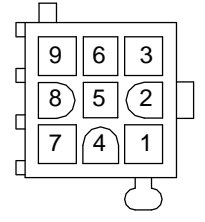

Figure 3-2
Wiring must be routed into the Converter Shelf through specific openings as shown in Figure 3-2. For factory wiring, edge guards are provided on the circular openings. If your application requires conduit, remove the edge guards, and install 1-1/4" conduit fittings.
When connecting lugs, correct assembly order is: lug, flat washer, lock washer, hex nut. Recommended torque is 84 in. lbs. Refer to Figure 3-2 for terminal identification as the following input connections are made.
- 1) A non-conductive shield covers the **2 -48V IN** and **2 INPUT RETURN** terminals. Refer to Figure 3-2 for location. Separate the two halves of the shield to expose the terminals.
- 4) Before performing steps 4 and 5, position the furnished non-conductive shield over the **2 -48V IN** and **2 INPUT RETURN** terminals as shown in Figure 3-2.
Two 1/4-20 threaded studs are provided to attach the grounding conductor to the Converter Shelf. Refer to Figure 3-2 for location. The installer must provide lugs. Refer to System Application Guide SAG588249700 for recommended wire size and lug. Refer to Table 3-1 for lug crimping information. The following hardware is factory-furnished for connecting the lug:
Wiring must be routed into the Converter Shelf through a specific opening as shown in Figure 3-2. For factory wiring, an edge guard is provided on the circular opening. If your application requires conduit, if not already done, remove the edge guards, and install a 1-1/4" conduit fitting.
When connecting the lug, correct assembly order is: ground washer, lug, flat washer, lock washer, hex nut. Recommended torque is 84 in. lbs. Refer to Figure 3-2 for terminal identification as the following input connections are made.
Make external alarm and control connections to the 9-pin connector (J11) located on the rear of the Converter Shelf. Refer to Figure 3-2 for connector location and terminal identification. A single set of Form-C relay contacts, rated for 1 ampere at 30 volts DC or 0.3 ampere at 60 volts DC, is provided for each alarm.
Wiring must be routed into the Converter Shelf through a specific opening as shown in Figure 3-2. For factory wiring, an edge guard is provided on the circular opening. If your application requires conduit, if not already done, remove the edge guard from the circular opening, and install a 1-1/4" conduit fitting.
When connecting lugs, correct assembly order is: lug, flat washer, lock washer, hex nut. Recommended torque is 84 in. lbs. Refer to Figure 3-2 for terminal location as the following input connections are made.